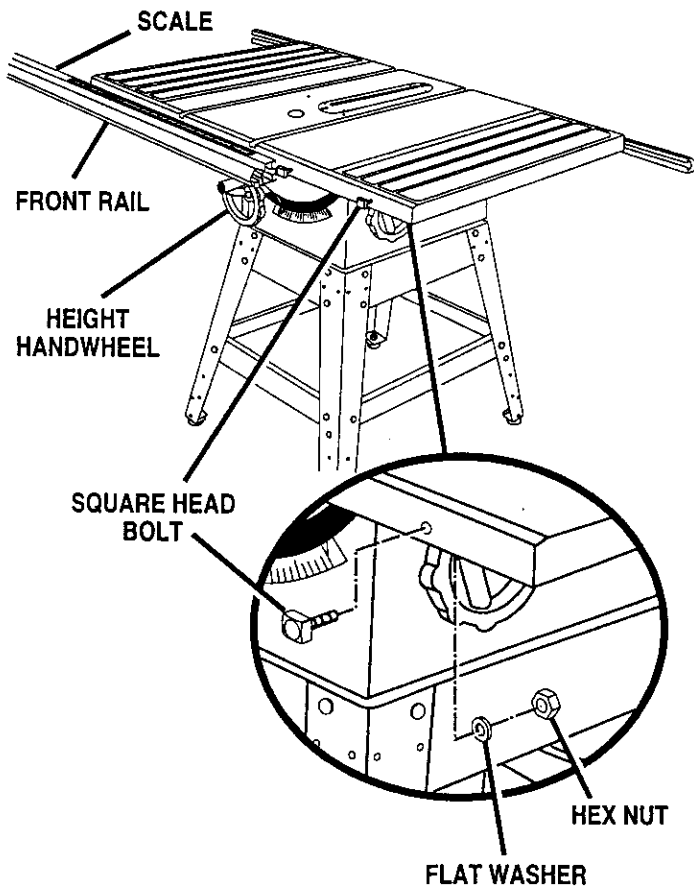

Fig. 6
Note: The square head bolts, washers, and hex nuts shown at the bottom of figure 6 should still be on the table saw. If you mistakenly removed them, put them back on the table. Do not tighten.
- Slide the rip fence back and forth. It should move freely with about 1/16 in. clearance below the rip fence. If it doesn't, loosen the nuts holding the front rail and adjust the rail up or down. *See Figure 6.*